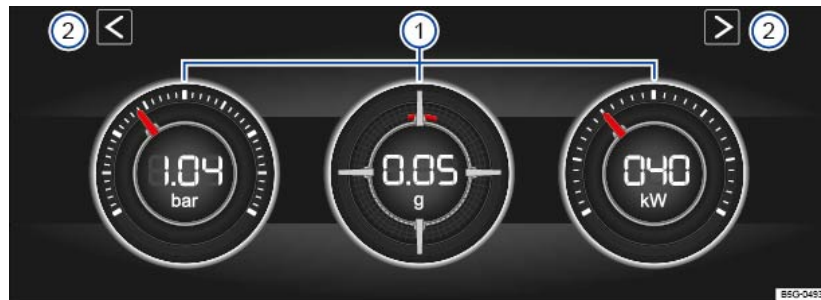
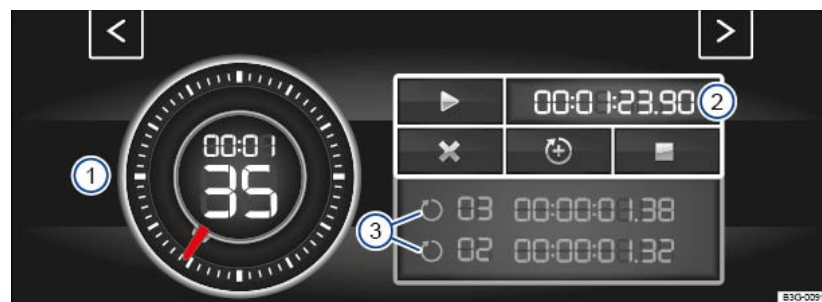
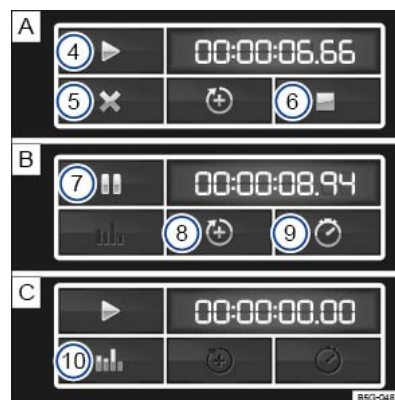

Fig. 27 On the Infotainment system display: Performance monitor.
Fig. 28 On the Infotainment system display: lap timer with stopwatch, function button and lap times.
Fig. 29 Function button on the Infotainment system display: time measurement for paused, current and completed lap.
Key for  Fig. 27
If you would like to switch between the performance monitor and the lap timer  *Lap timer*, touch one of the arrow buttons on the left and right above the instruments  Fig. 27 .
The display can show a maximum of three instruments at the same time. Each instrument can be selected for each display area  Fig. 27  (left, middle, right).
- **Charge pressure display:** the charge pressure display  Fig. 27  (left) shows the pressure in the charge air system between the turbocharger and engine (in the unit bar). The further to the right the needle on the scale, the higher the engine power output.
- **Accelerometer (G-meter):** The accelerometer (G-meter)  Fig. 27  (centre) shows the acceleration value in the centre (in the unit g). The red marking in the grid-type area shows the acceleration level and the direction of the acting force (in the opposite direction according to physical laws). If you drive to the left, for example, the red marking will move in the right area of the instrument (and vice versa). If you accelerate, the red marking will move down. If you brake, the red marking will move up. The level of acceleration is indicated by the position of the red marking which moves outwards. If the acceleration increases, the red marking will move away from the centre area.
- **Power display:** the power display  Fig. 27  (right) shows the current engine power output as a digital value and on the surrounding scale (in kW).
Key to  Fig. 28 and  Fig. 29 :
- Touch one of the arrow buttons *⇒ Fig. 27 ②* in the performance monitor to change to the lap timer.
You can change between the lap timer and performance monitor at any time using the arrow buttons *⇒ Fig. 27- 2-* and *⇒ Fig. 28* .
Start or continue time measurement	Touch the function button to start or continue  ⇒ Fig. 29 A ④ .
End time measurement	Touch the function button to end measurement  ⇒ Fig. 29 A ⑥ .
Pause time measurement	Touch the function button to pause measurement  ⇒ Fig. 29 B ⑦ .
Start new lap	Touch the function button to add a new lap ⇒ Fig. 29 B ⑧ . The last lap time is stored and a new lap starts. The overall time of the laps driven is shown in the statistics.
Cancel current lap	Touch the function button to cancel the current lap ⇒ Fig. 29 A ⑤ .
Display intermediate time	Touch the function button for the intermediate time  ⇒ Fig. 29 B ⑨ . The stopwatch ⇒ Fig. 28 ① stops for a few seconds and the intermediate time is displayed.
Display statistics	After ending or cancelling time measurement, touch the function button for the statistics ⇒ Fig. 29 C ⑩ .
Reset data in the statistics	Touch the function button for statistics ⇒ Fig. 29 C ⑩ . Delete the data by touching the Reset function button.